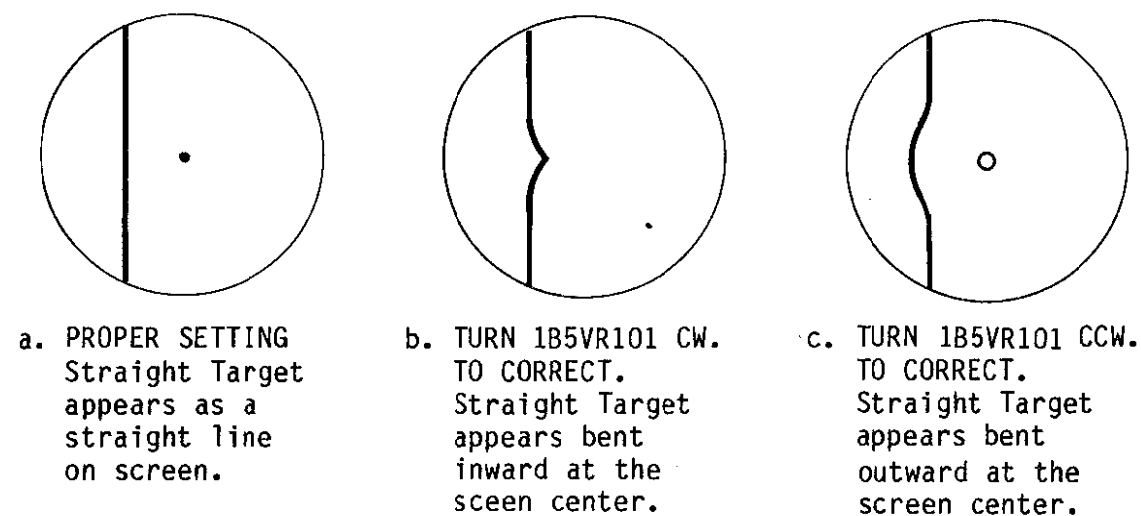

Fig.1-14
- * Straight wharf or breakwater appears bent inward or outward at the screen center on 1/4 n.m. range as shown in Fig.1-14(b) and (c).